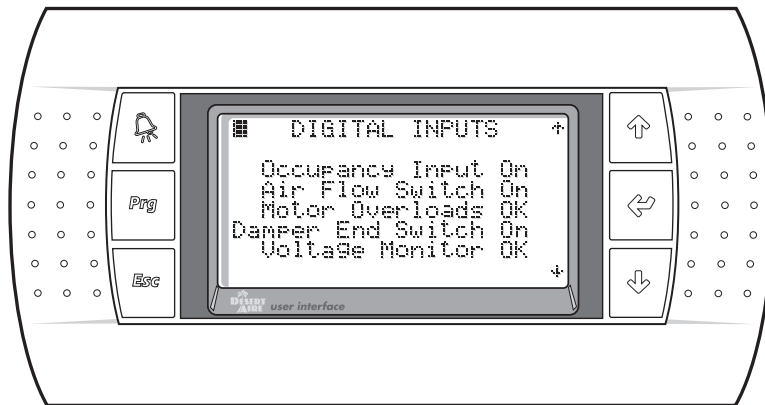

Figure 9
2.3.2.1 Digital Inputs (Figures 9 - 11)
The Digital Input screens will show the state of the contacts wired into the controller. These screens are provided for troubleshooting of the control system. Figure 9 is shown as an example of what these screens